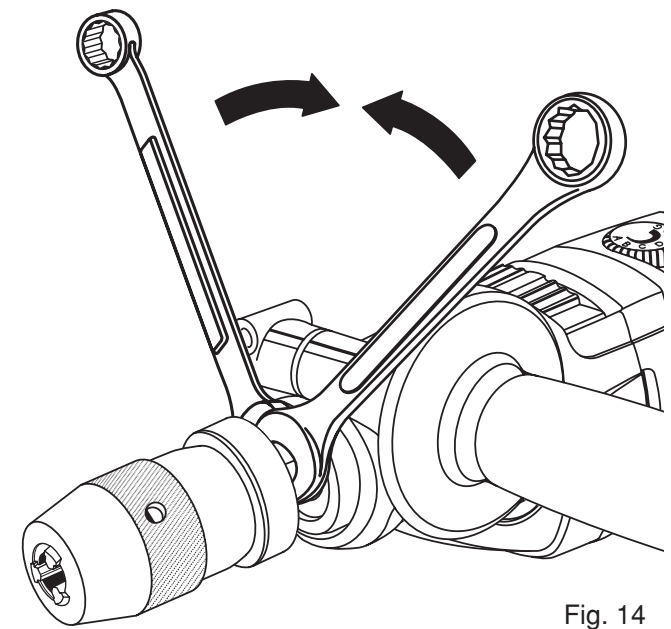

Fig. 14
See Figure 14.
- Using two open-end wrenches, tighten the chuck. See Figure 14.